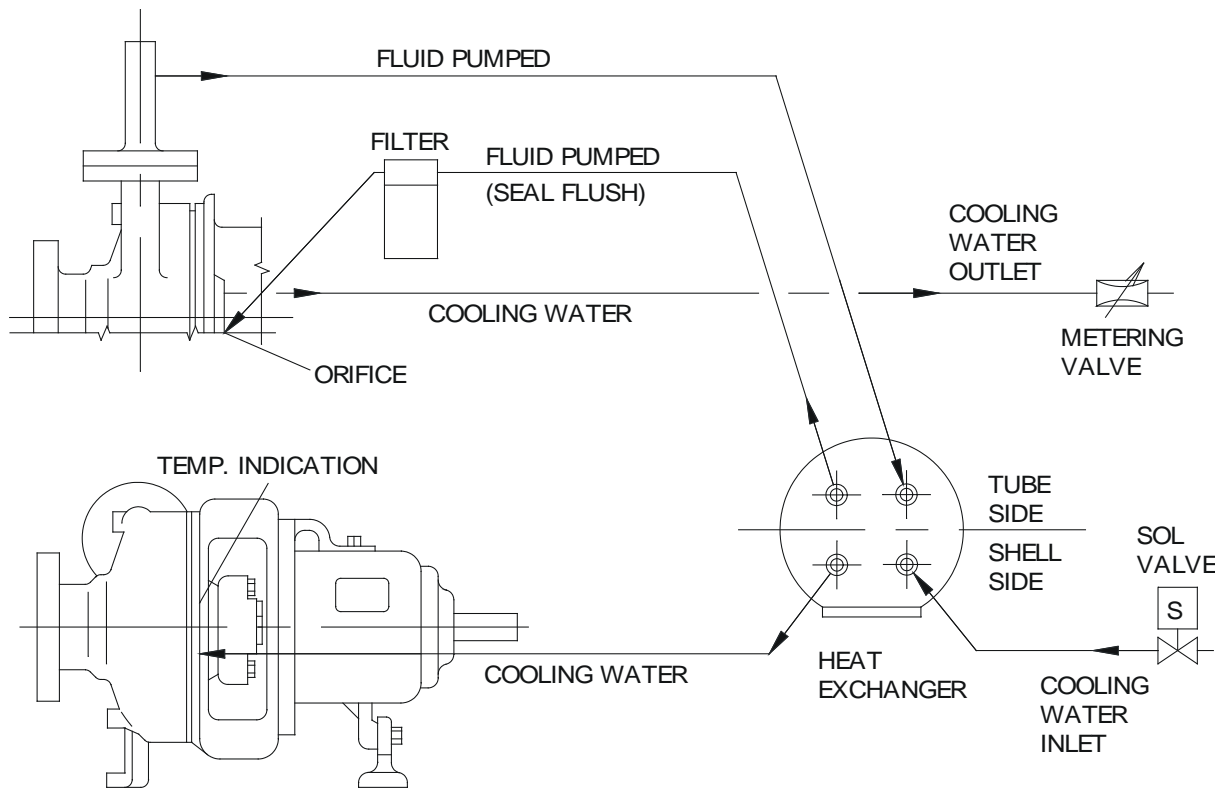

Figure 26. Seal Flush Piping Arrangement
- 14.5** Solids, dissolved and undissolved, in the boiler water being pumped are an enemy to extended life of the mechanical type seal as well as excessive heat. An optional seal flush system is often used for pumps with mechanical seals such as, or similar to, the arrangement illustrated in Figure 26. Water (approximately ½ GPM) is taken from the boiler inlet manifold (recirculating pump outlet) and sent through a heat exchanger. Cooling water to the shell side of the heat exchanger cools the boiler water to a temperature of 160° - 175°F. The boiler water is then filtered and sent to the seal chamber connection on the pump. This water flushes out the seal chamber as well as cools the seal faces as it again enters the pump suction.
- 14.7** The recirculating pump cooling water inlet line may contain a manual shut off valve or an automatic shut off valve (see Figure 26) wired to the boiler control panel. Metering of the cooling water must be done on the outlet line.